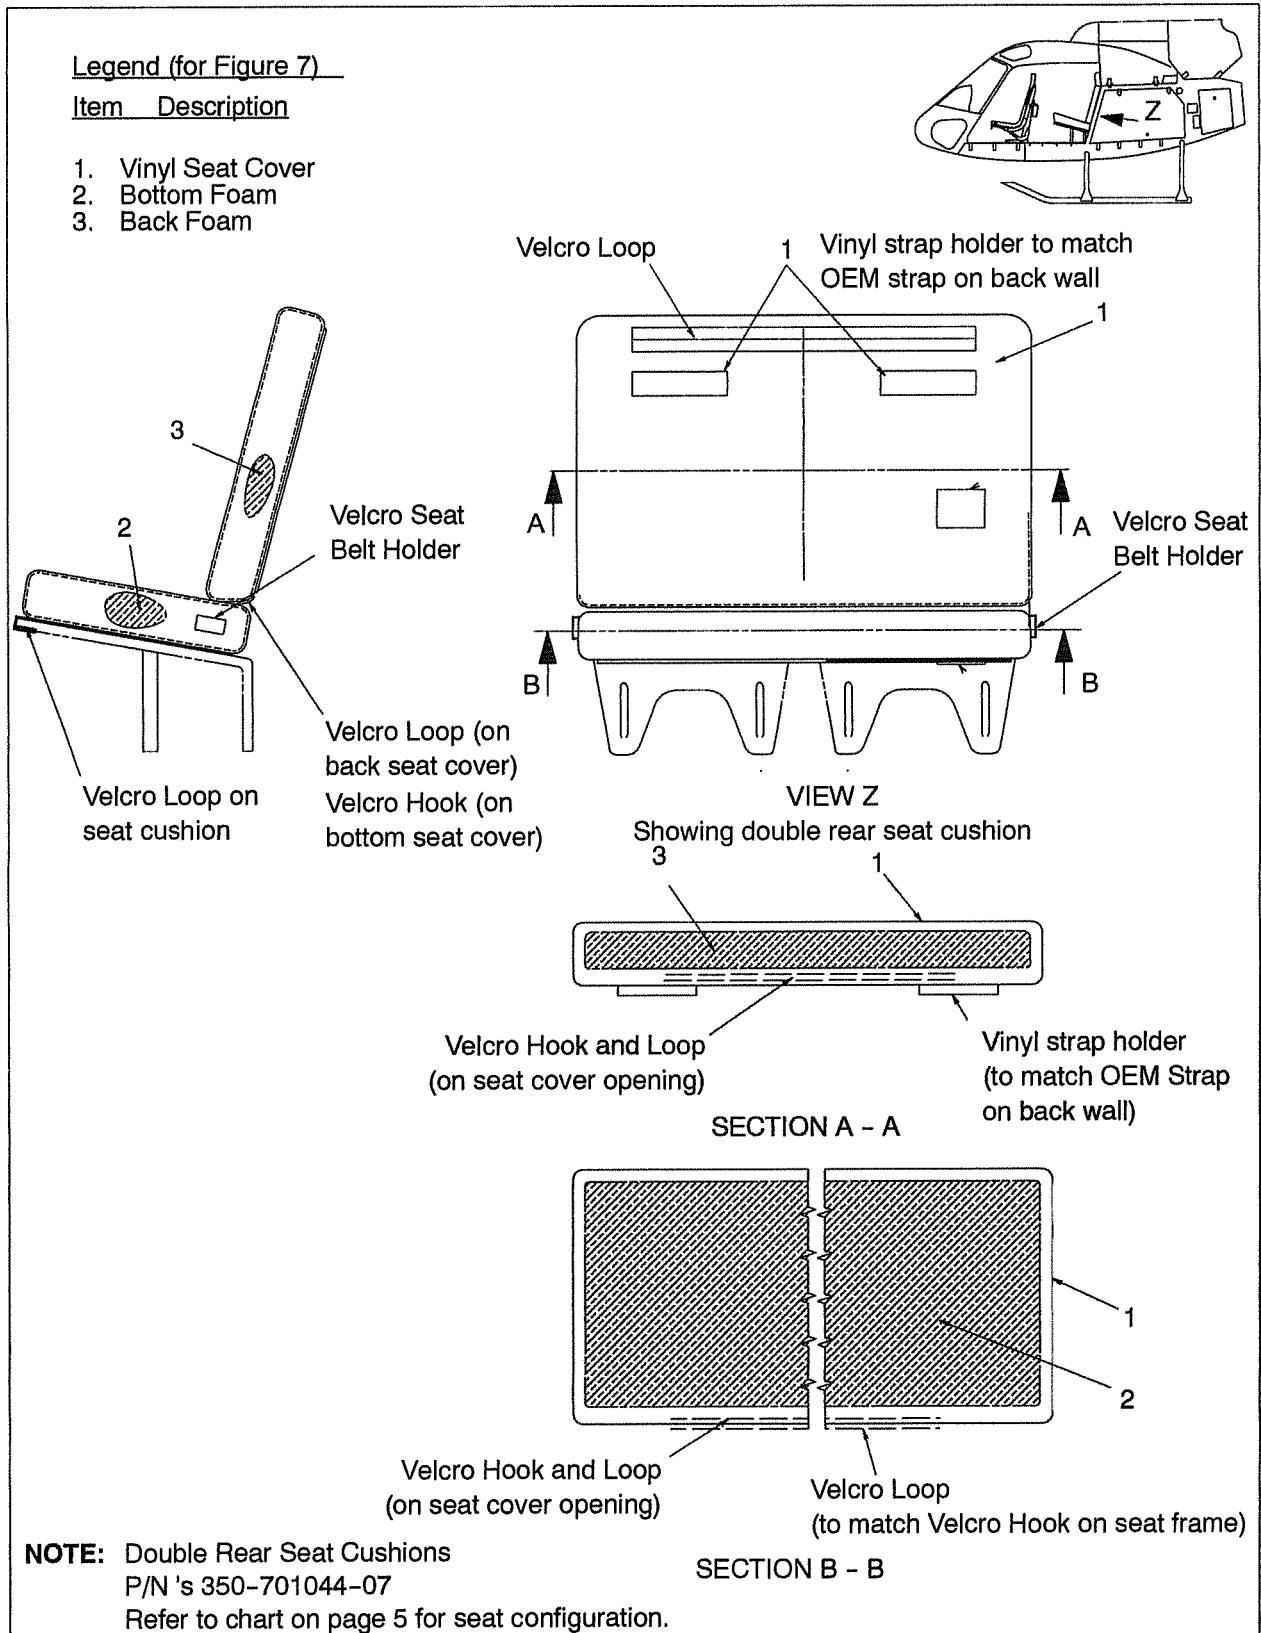

Figure 7 Double Rear Seat Cushion Details
3) DOUBLE REAR SEAT CUSHION (Refer to Figure 7)